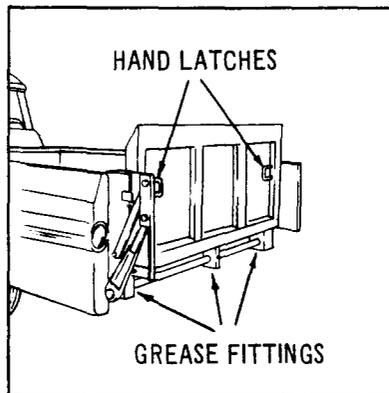
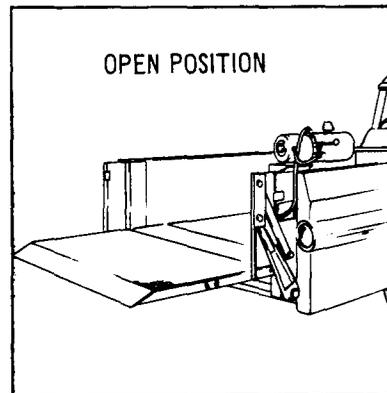

Fig. 16
Fig. 17
14.01 To open platform, release hand latches (Fig. 16) by pulling both inward; platform can then be lowered manually to "horizontal" (Fig. 17) position.
14.08 Keep unit well lubricated. Use a pressure gun grease on each grease fitting. See Fig. 16. Oil contacting faces of other working parts.